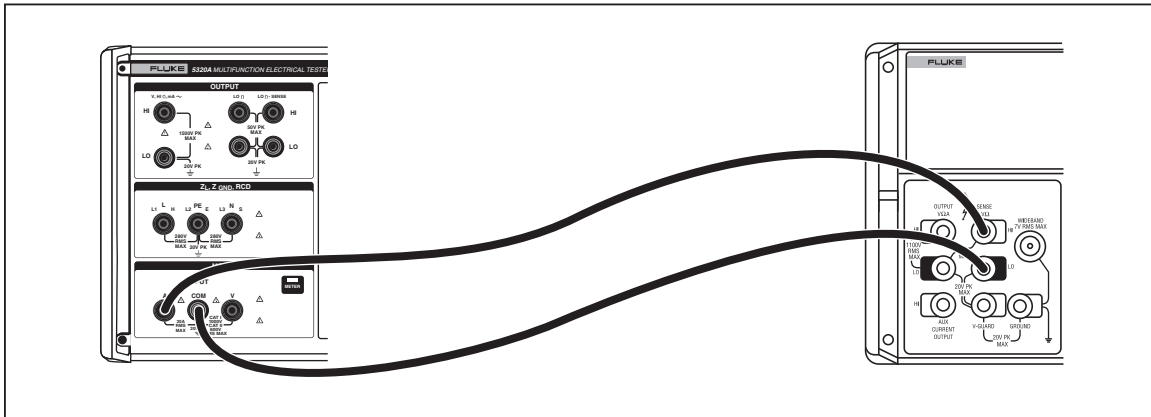

Figure 3-23. DC HIPOT Leakage Calibration Connections
1. Connect the Fluke 5220A to the Calibrator's output terminals as shown in Figure 3-23.